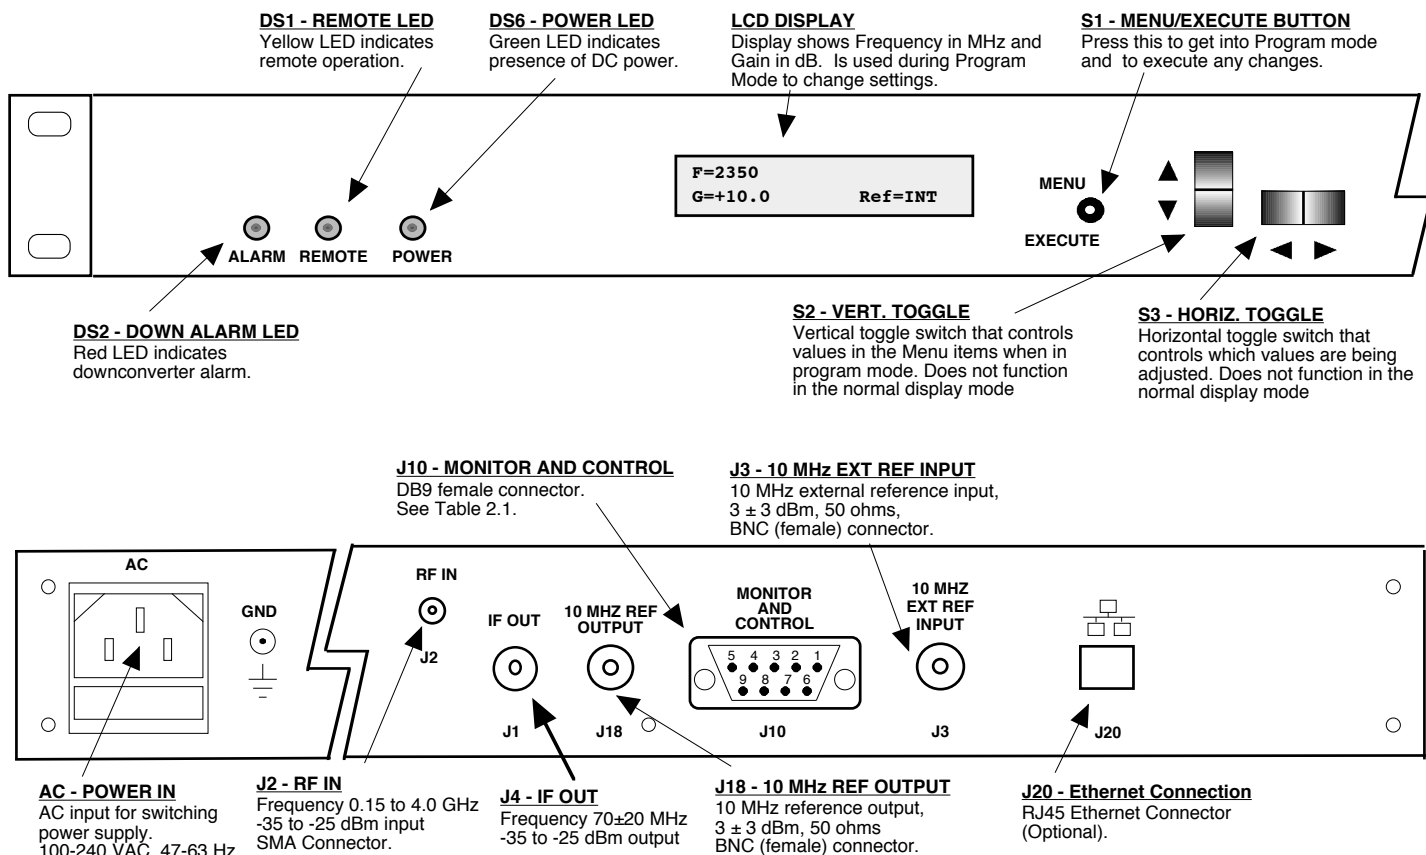

Figure 2.3 Front & Rear Panel Controls & Indicators
2.3 Front & Rear Panel Controls and Indicators - Figure 2.3 shows the front and rear panel controls and indicators.
1. Connect a -35 dBm to -25 dBm signal, to RF IN, J2 (Figure 2.3, page 9)
5. Be sure DS6 (green, DC Power) is on and DS2 (red, Alarm) is off (Figure 2.3, page 9).